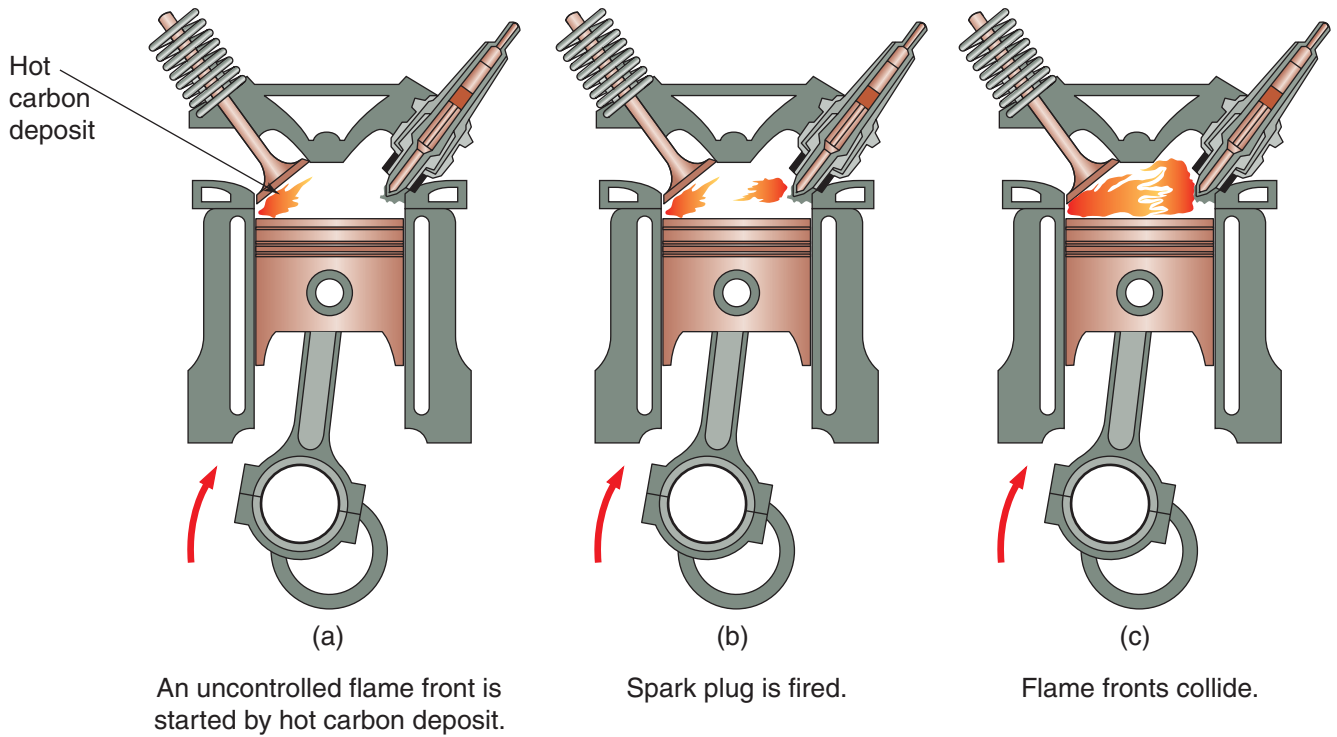

Figure 12-59 The phases of preignition.
- **Preignition.** When **preignition** occurs, the air–fuel mixture in the combustion chamber ignites before the spark plug actually fires. This may sound strange. How can the mixture ignite before there is spark? The explanation is based on the fact that the burning air–fuel mixture produces a lot of heat. The lingering high temperature in the combustion chamber can cause small carbon deposits to continue to burn, thereby causing the mixture to ignite without a spark (Figure 12-59). Preignition can also be caused by excessive compression of the air–fuel mixture. The carbon that sometimes builds up on the cylinder head and piston crown reduces the overall volume of the combustion chamber. The chamber’s reduced volume results in an increase in the